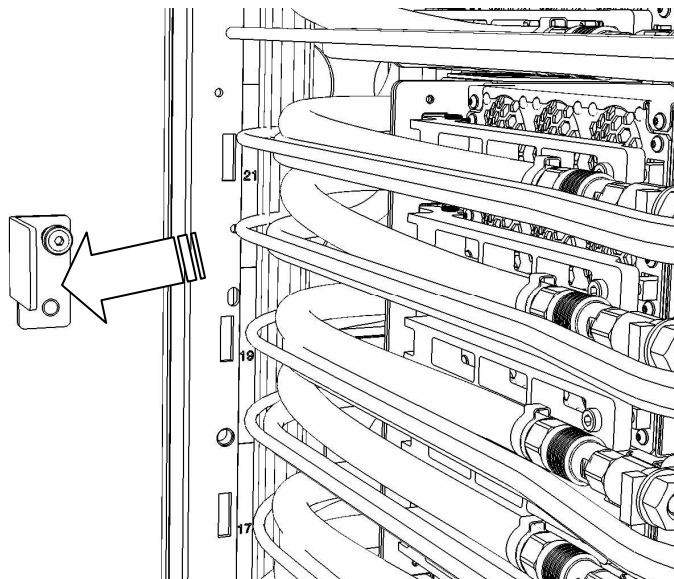

Figure 11 Remove Cover Latch Bracket
- b) Remove the cover latch bracket on the left vertical rack member using the 4mm hex driver 41V1059. (See Figure 11)